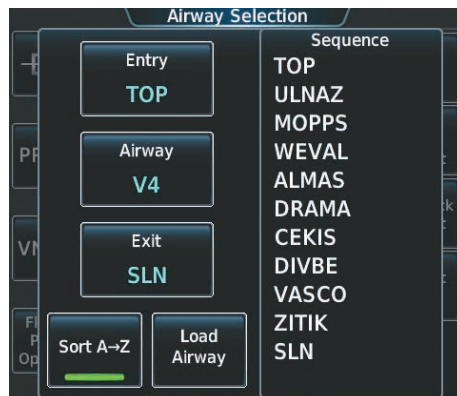

Figure 5-166 Ready to Load V4
- h) Touch the **SLN** Button to select the Salina VOR (SLN). The selected airway entry, exit, and waypoint sequence are displayed as shown in Figure 5-166.